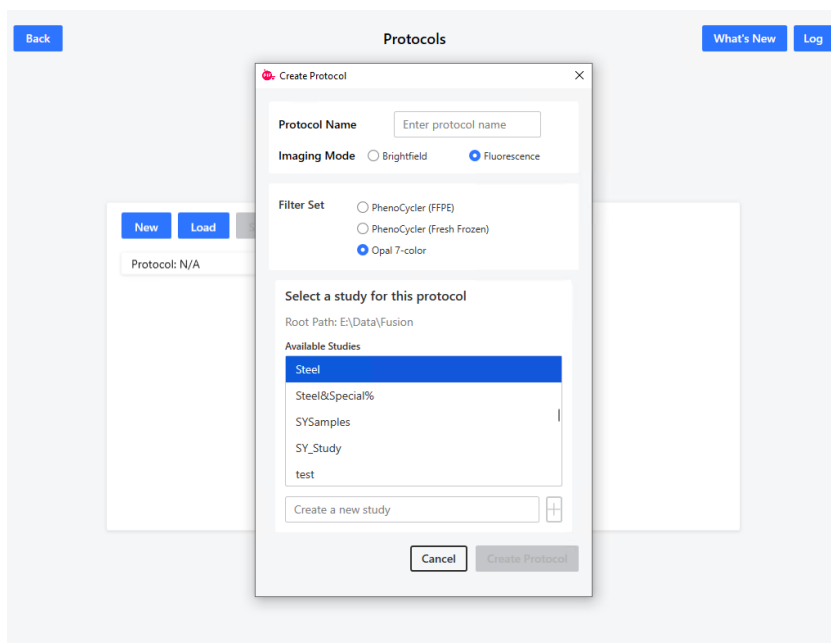

Figure 5.2. Create a protocol.
2. Click the New button. The Create Protocol window opens. (See Figure 5.2.)